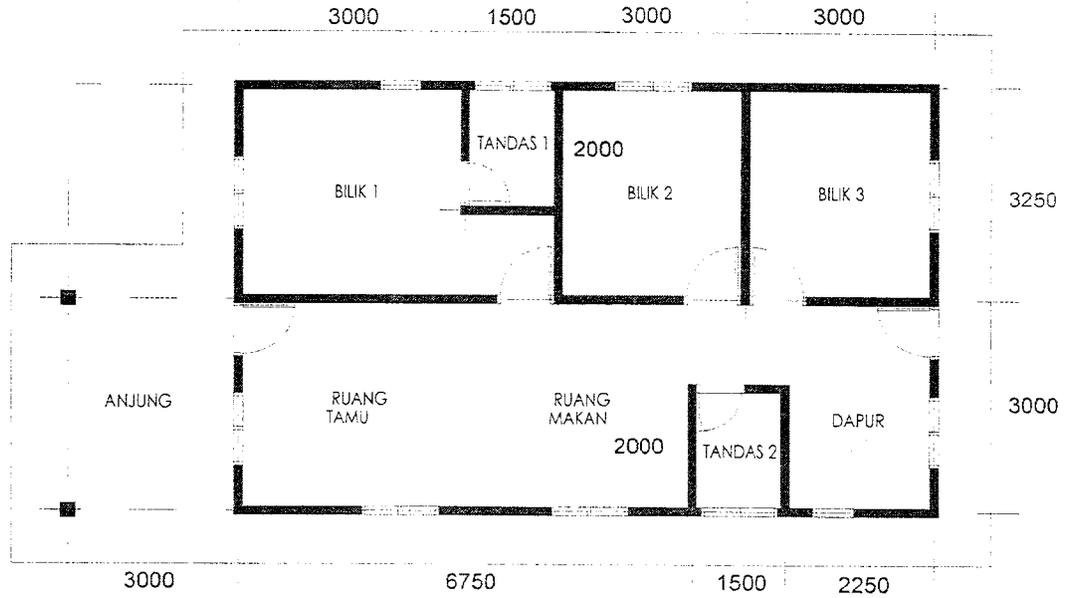

Figure B1 (c) / Rajah B1 (c): Floor Plan /Pelan lantai
- (c) Based on **Figure B1 (c)**, calculate the cost of the building using the Floor Area Method. Given the price rate is RM525.00/m2 and wall thickness is 115mm. All the dimensions are measured center line to center line.